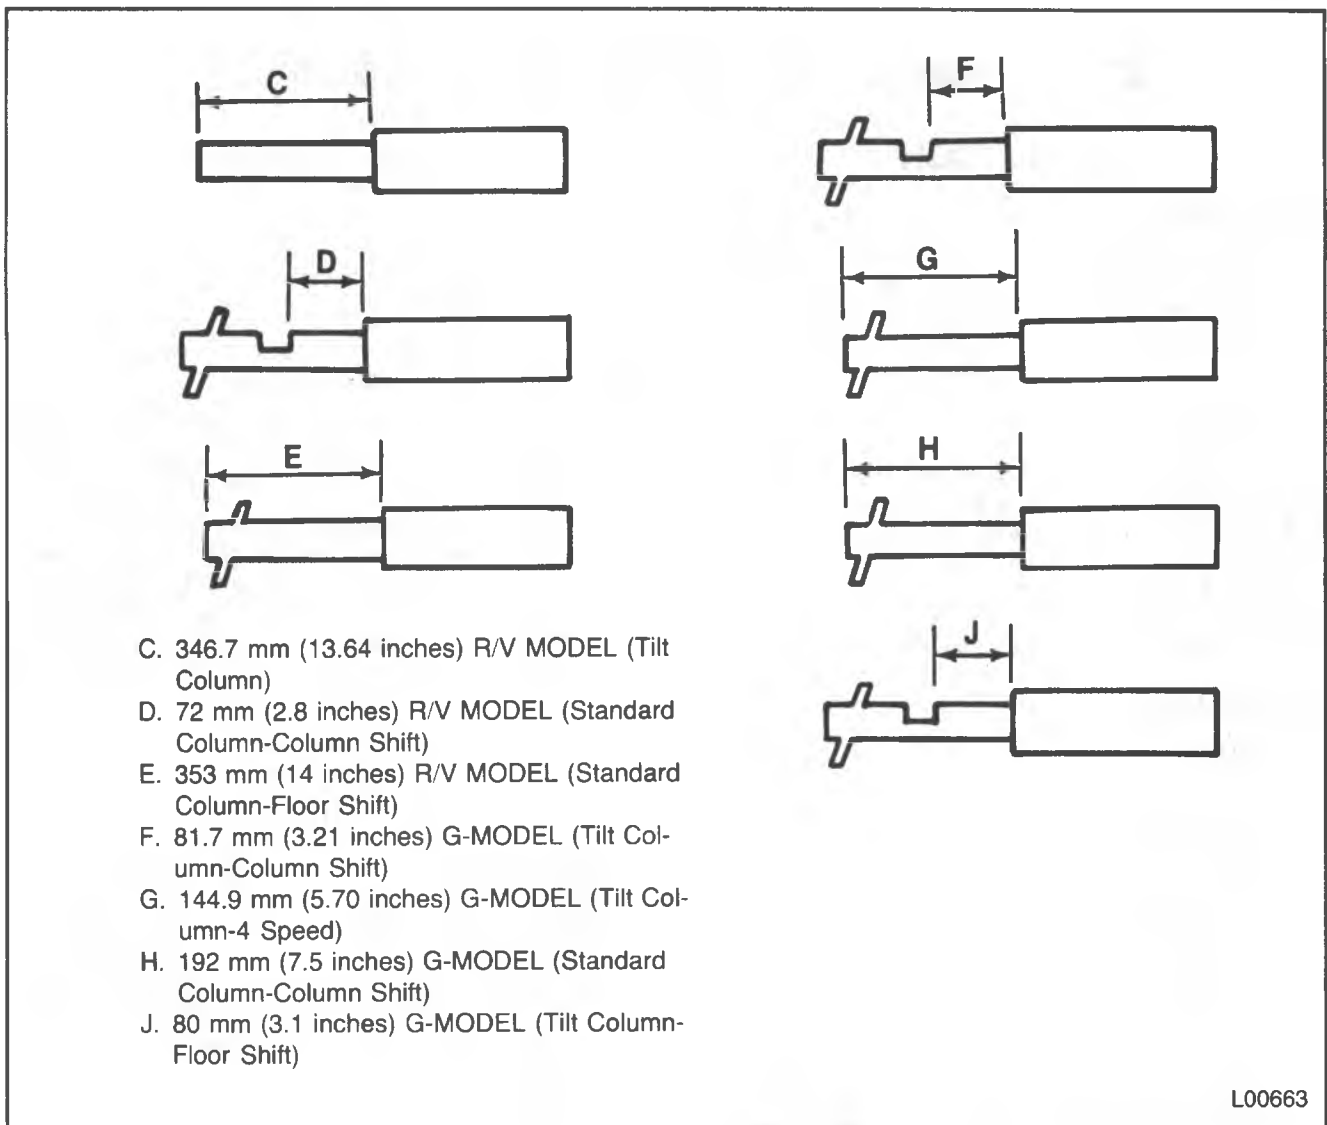

Figure 2 — Steering Column Collapse Inspection
4. Jacket collapse. Measure the jacket collapse dimensions, depending on the vehicle and steering column, in any of the following ways (figure 2):
- Measure from the end of the bearing assembly to the lower edge of the upper jacket (C).